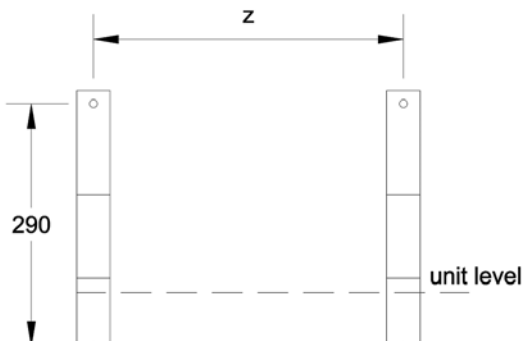

Figure 3.2 ICUS Unit Fixing
The unit can either be mounted on a level surface or suspended from a vertical wall using the wall mounting Optional kit (1). The unit should always be mounted on a load bearing wall and not a partition wall. Ensure there is sufficient free area around the unit as detailed in Figure 3.2.
Ensure there is adequate air entry at the back of the unit as detailed in Figure 3.2 above.